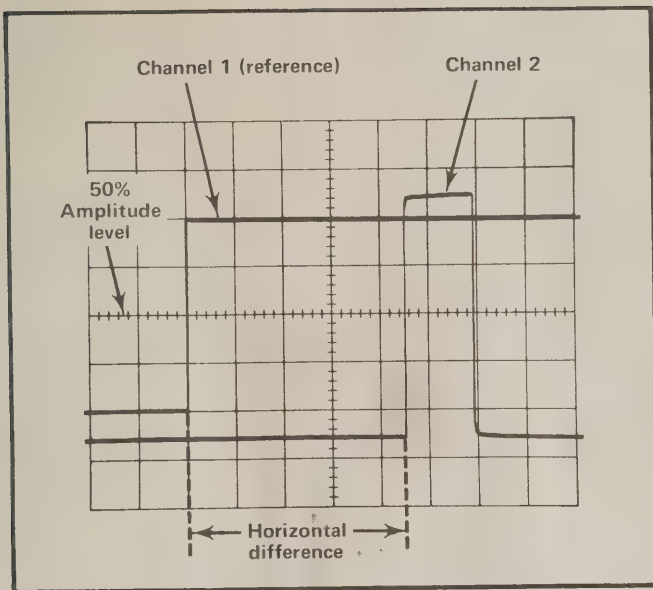

Fig. 6. Measuring time difference between two pulses.
11. Measure the horizontal difference between the Channel 1 waveform and the Channel 2 waveform (see Fig. 6).
Example. Assume that the TIME/DIV switch is set to $50 \mu\text{s}$, and the horizontal difference between waveforms is 4.5 divisions (see Fig. 6).